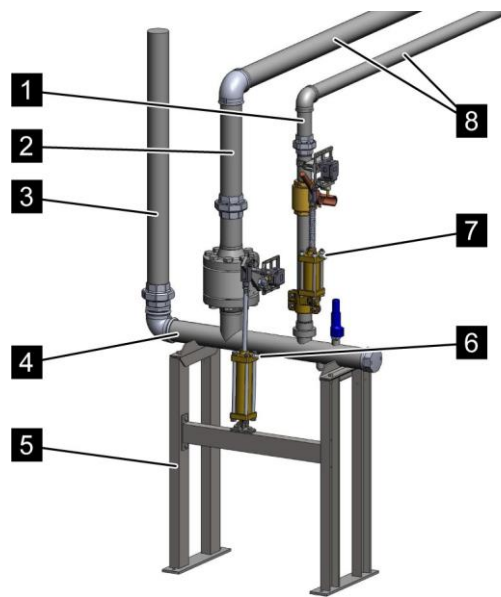

Fig. 104: Mounting selector valves DN65/DN80/DN100 (2 1/2"/3"/4")
1. ➔ Bolt the bracket (Fig. 104/5) onto the floor.
2. ➔ Connect the outlet pipes (Fig. 104/1+2) of the selector valves to the nozzle pipe system (Fig. 104/8).
3. ➔ Connect the manifold (Fig. 104/3) to the distributor (Fig. 104/4).
4. ➤ Connect the pilot line from the pneumatic release device (PAE) to the connections of the pneumatic cylinders (Fig. 104/6+7).